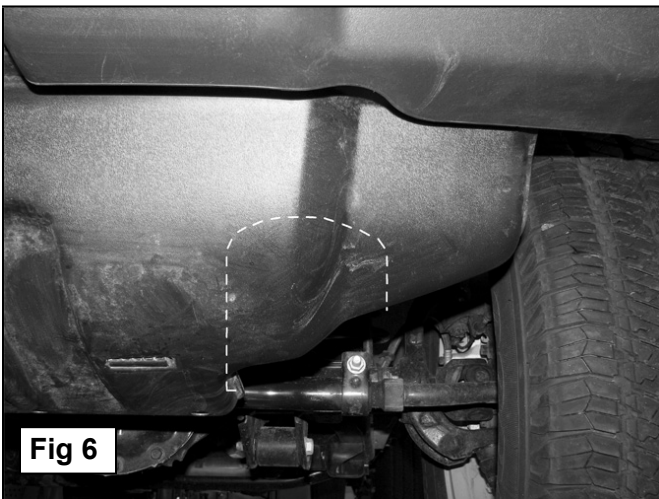

Fig 6
9. Position the splash guard back up to the vehicle and attach with the factory hardware. Estimate the amount of cutting required to clear the Brackets and Bull Bar. Mark the location of the Mounting Brackets onto the back of the splash guard, (**Figures 6 & 7**). **NOTE:** To maintain the integrity of the plastic Splash Guard, remove only material necessary to clear the Bull Bar and Brackets. Make small cuts and check the fit often before final installation. Reinstall the splash guard with factory hardware.